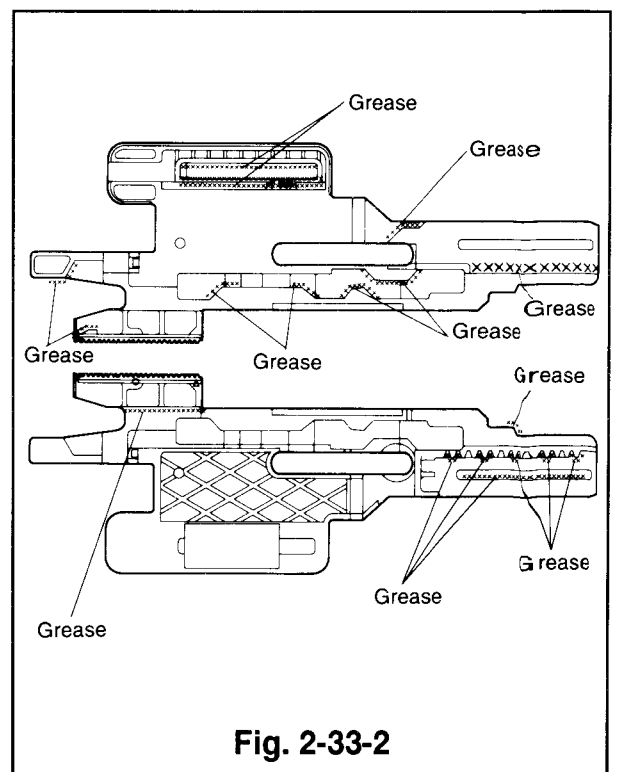

Fig. 2-33-2
- ① Apply grease (G) [859D055O50] to the area shown in Fig. 2-33-2 of the new cam plate B.